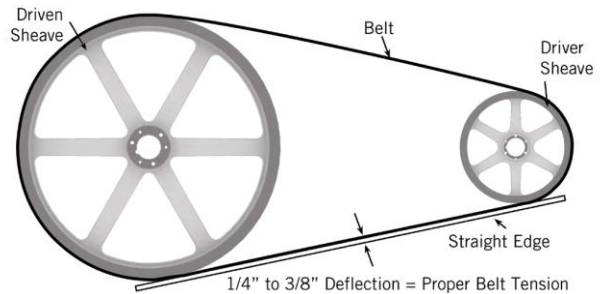
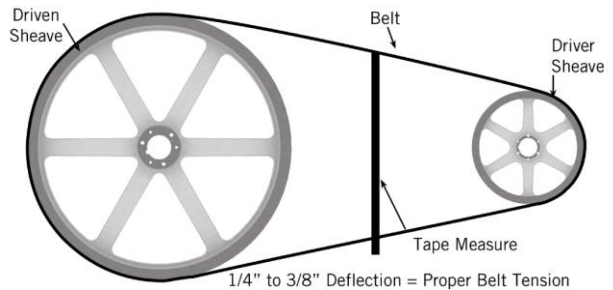

Figure 2. Belt Tension with a Straight Edge
Figure 3. Belt Tension with a Tape Measure
- a. Place a straight edge along the belt from sheave to sheave as shown in **Figure 2** or use a tape measure as shown in **Figure 3**, to measure belt deflection.
- c. There is adequate belt tension if the belt deflects between 1/4" and 3/8" as shown in **Figure 2** and **Figure 3**.